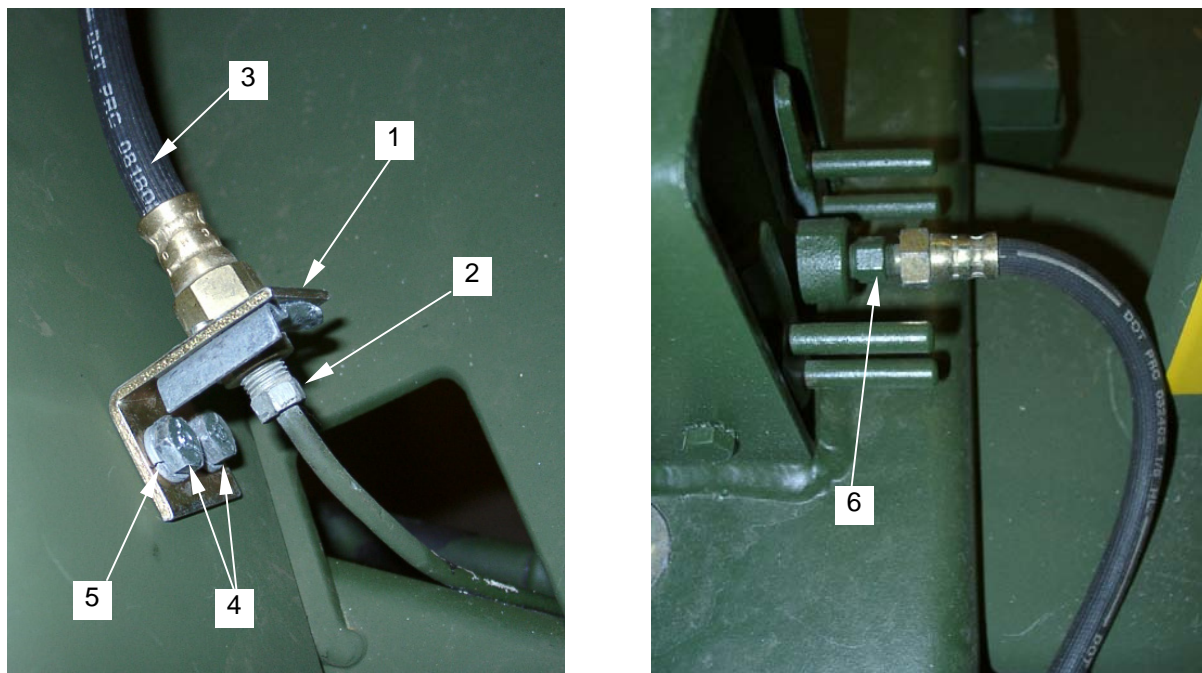

Figure 12. Master Cylinder Brake Hose
- a. Place an approved container under the master cylinder hose bracket (**figure 12, item 1**).
- b. Loosen and remove hard line fitting (**figure 12, item 2**) from the brake hose (**figure 12, item 3**).
- d. Loosen and remove cylinder hose bracket mounting bolts (**figure 12, item 4**) and lockwashers (**figure 12, item 5**). Retain hardware.
- e. Loosen and remove the brake hose from the orifice connector (**figure 12, item 6**).